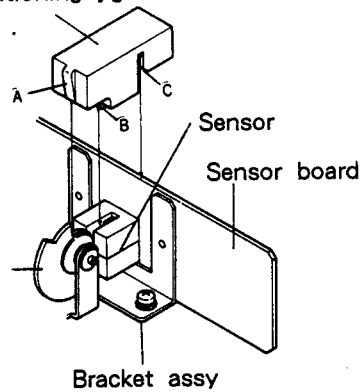

Fig. 2-22
2. As shown in Fig. 2-22, insert "platen roller positioning jig" in the cam (L) and cam (R) and fix them.
3. As shown in Fig. 2-22, fix the position of the cover plate with "the sensor positioning jig".
In case re-adjustment is required, loosen 2 screws retaining the fixing table assy as shown in Fig. 2-22 and adjust so that the positions of the cams (L, R) and the cover plate are correct.